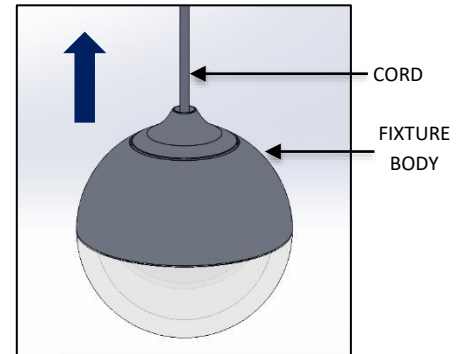

FIG. 16 – FIXTURE INSTALLATION
2. Raise the GLOWBALL FIXTURE as shown below in FIG. 16 to assemble to the MOUNTING BRACKET.